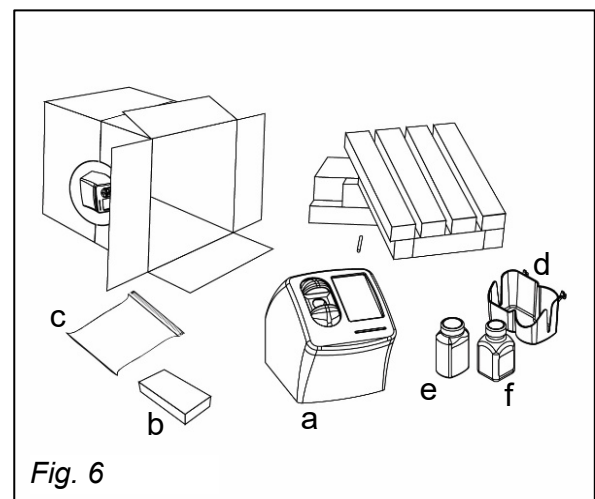

Fig. 6
- 2.2.7. Remove the foam panels from the sides of the instrument (Fig.6)
Refer to Fig. 6 above